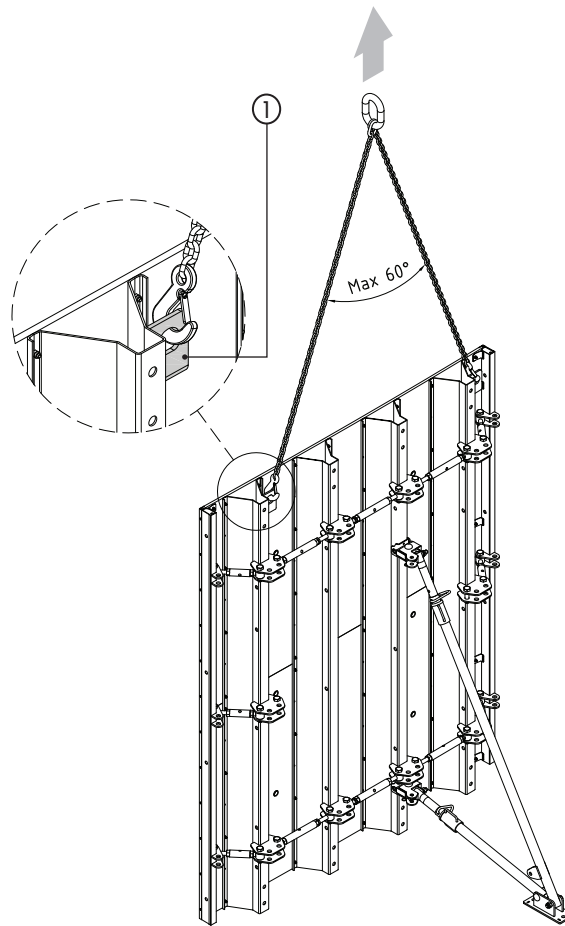

Fig. 6
- ▶ Connect the crane's lifting cables to the dedicated slots on the steel profiles, with a maximum aperture angle of 60° (Fig. 6).